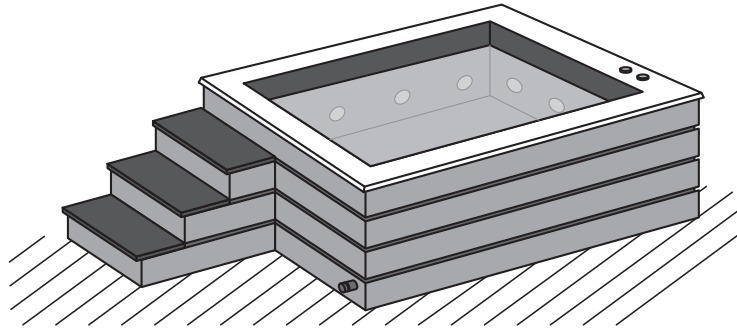

Figure Q5
5. The hot tub shown in Figure Q5 uses a two-state closed-loop control system to regulate the water to a desired temperature.